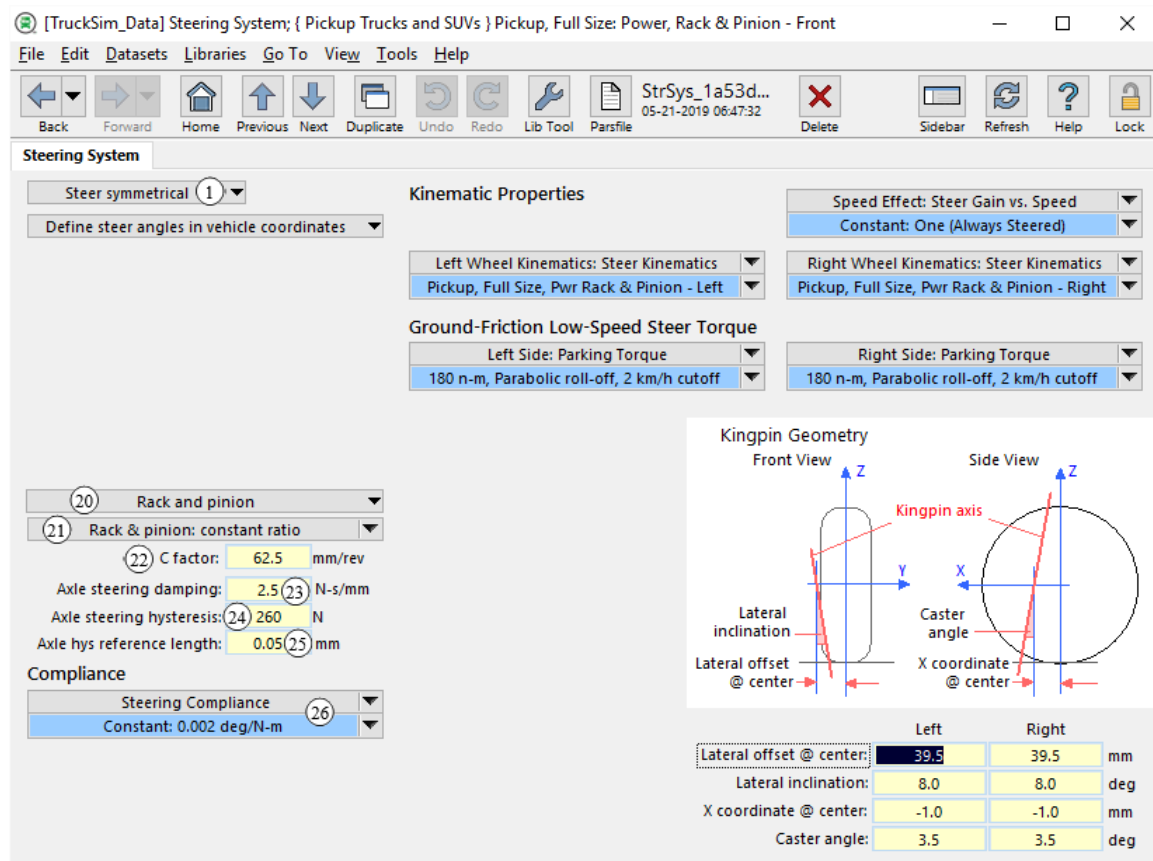

Figure 12. Steering System: Steering system screen with symmetric steer.
- ⑮ Tie rod compliance for steer of second wheel (keyword = CS_MZ_ROD). This is the compliance ratio between steer of the wheel controlled by a tie rod and the steering moment applied to that wheel alone.
- ⑯ Steering column/system compliance (keyword = CS_MZ_SHAFT). This is the compliance ratio between the steer of the controlled wheel and the total steering moment applied to both wheels of the axle.
- ⑰ Axle wrap compliance (keyword = C_WRAP). This parameter only applies for solid-axle suspensions. It is a compliance ratio between the forward pitch of an axle relative to the sprung mass, and the total wheel spin torque (braking/acceleration).
- ⑱ Ratio between steer and axle wrap (keyword = R_WRAP_STR). This is the steer applied to the axle due to axle wrap It results from the geometry and angularity of the drag link.
- ⑲ Ratio between wheel steer and solid-axle jounce (keyword = R_BMP_STR). bump-steer effect is due to interactions between vertical movements of the axle and the asymmetric steering connection that induces a steering angle on the controlled wheel.
When the pull-down for setting the linkage-type ① is set to **Steer Symmetrical** the appearance of the screen is as shown in Figure 12. Alternate controls are displayed to configure the symmetrical system.